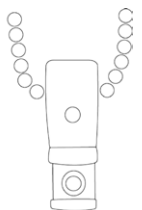

Figure 2
2. Install the tension device onto the reveal/frame, making sure that the loop chain hangs with minimal tension (Figure 2).